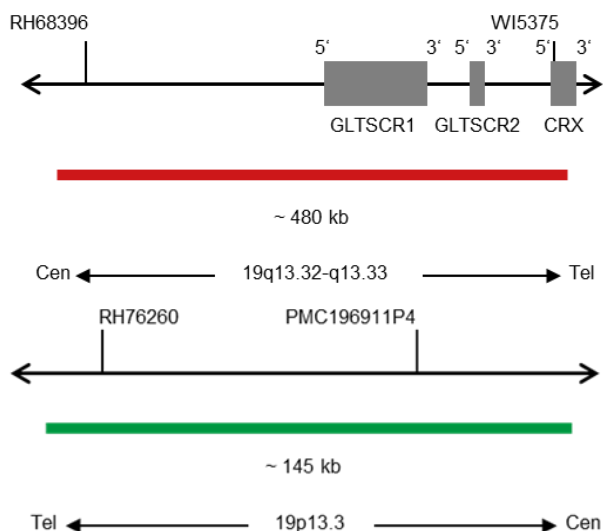

Fig. 2: Top: SPEC 19q13 Probe map; Bottom: SPEC 19p13 Probe map (not to scale)
- Dinitrophenyl-labeled polynucleotides (~0.8 ng/μl), which target sequences mapping in 19q13.32-q13.33\* (chr19:47,857,776-48,339,398) (see Fig. 2).
- Digoxigenin-labeled polynucleotides (~0.8 ng/μl), which target sequences mapping in 19p13.3\* (chr19:815,938-962,244) (see Fig. 2).